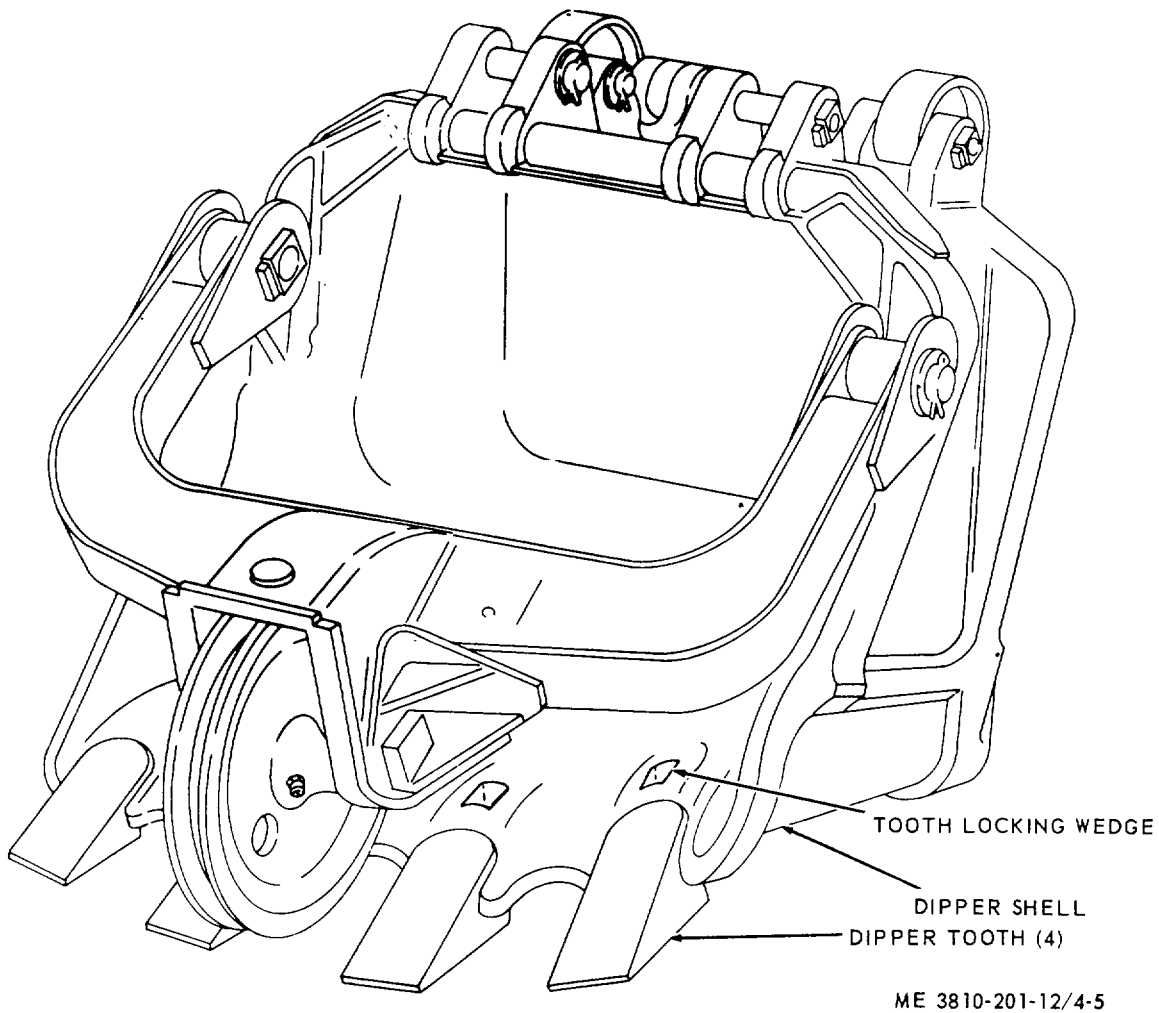

Figure 4-5. Dipper teeth, removal and installation.
(1) Lower dipper to rest on blocking or cribbing at door end, allowing crewman room to drive tooth locking wedge from tooth (fig. 4-5).
(2) Use drift punch or other suitable tool at small point (bottom of wedge), then drive upward until wedge is free of tooth.
(3) Loosen tooth in socket with side-to-side taps of hammer, then remove defective tooth.
(4) Remove remaining teeth in a similar manner.